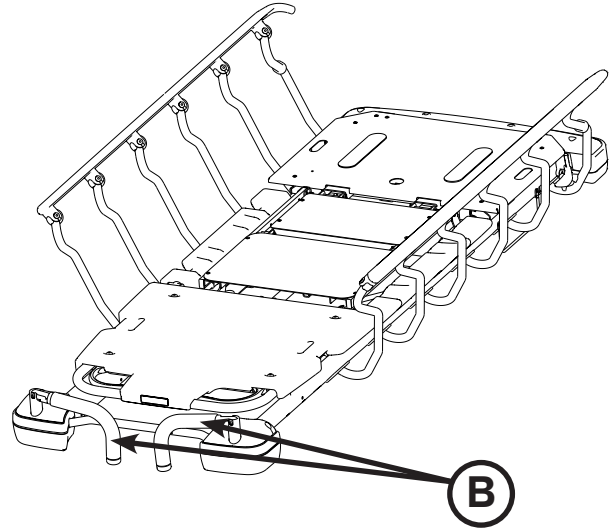

Figure 20: Head End Push Handles Stored
To store the push handles, lift the handles (B) up and pivot them down to store in the handle rests (Figure 20).